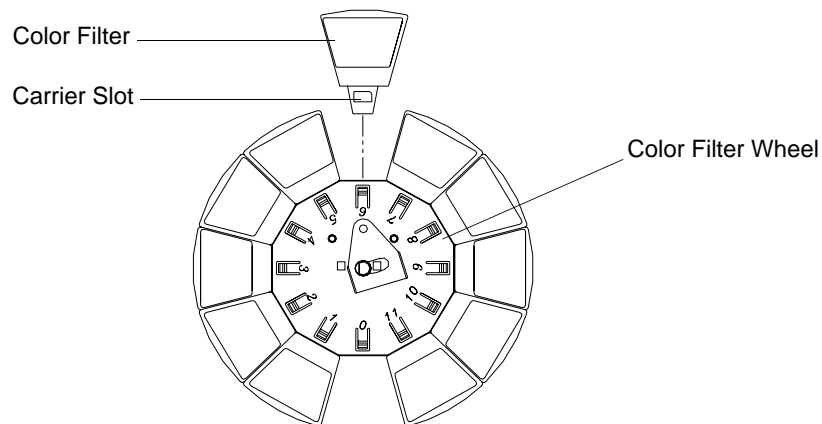

Figure 2-5: Standard Color Filter Replacement
- Step 5. Using fingers, pull filter out of wheel as illustrated in Figure 2-5.